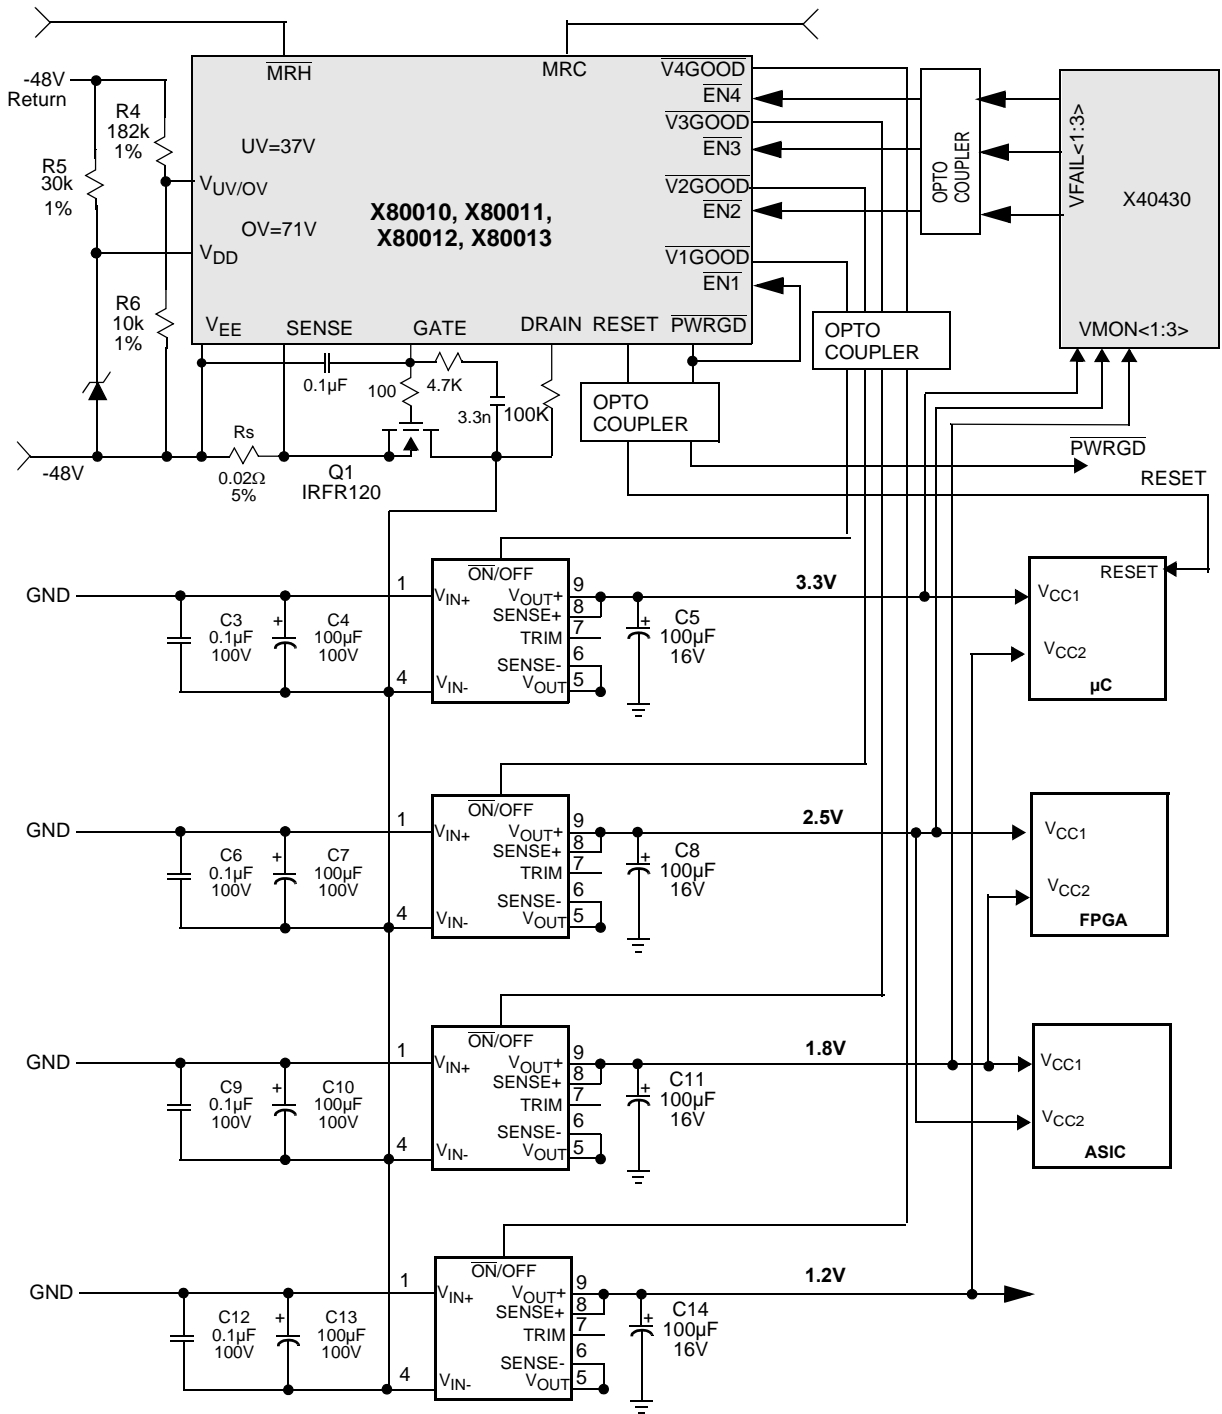
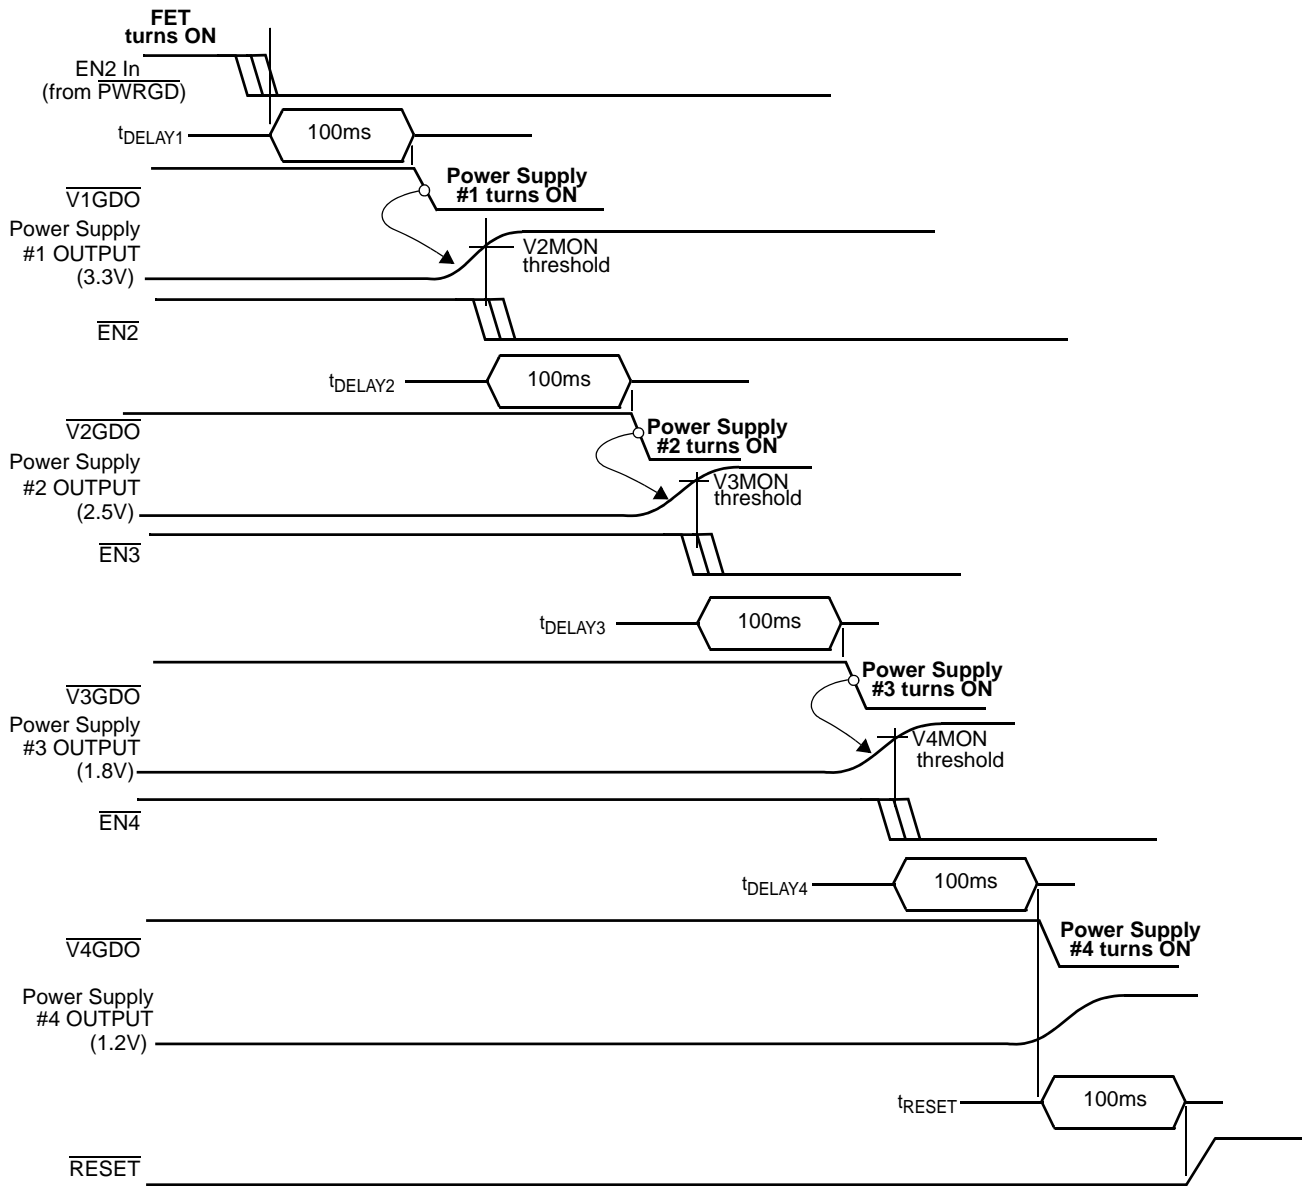

FIGURE 43. TYPICAL APPLICATION OF HOTSWAP AND DC/DC RELAY SEQUENCING
FIGURE 44. RELAY SEQUENCING OF DC/DC SUPPLIES. (TIMING)
1. Power Up of DC/DC Supplies Via Relay Sequencing Using Power Good and Voltage Monitors (see Figure 43 and Figure 44).